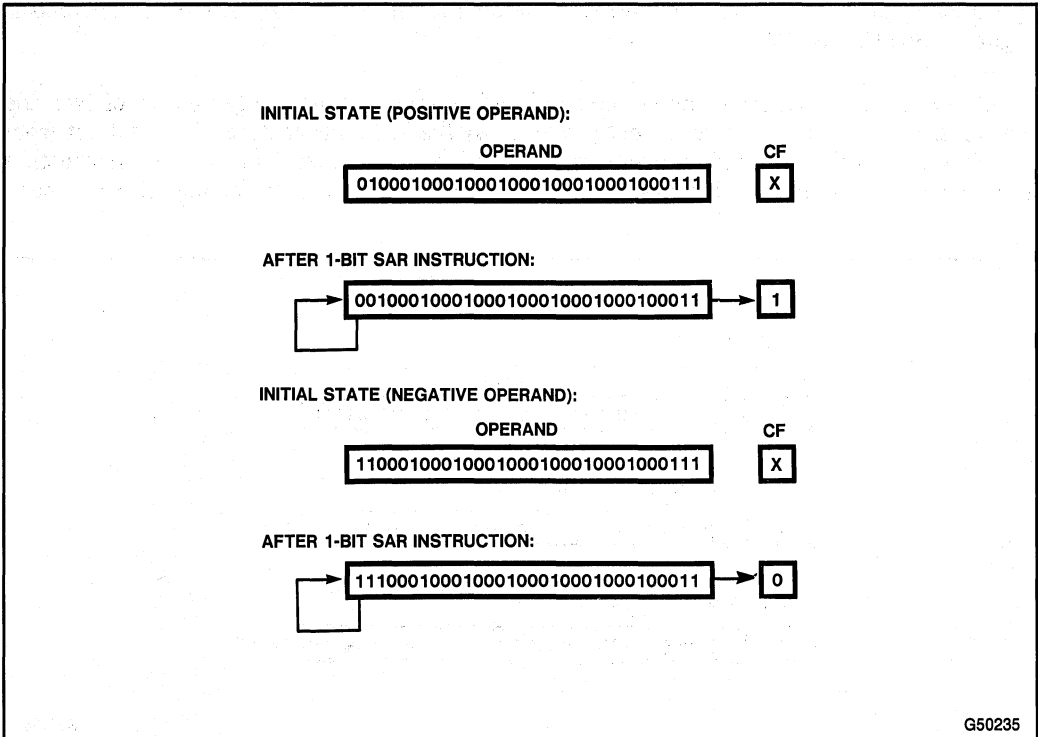

Figure 3-8. SAR Instruction
**SAR (Shift Arithmetic Right)** shifts the destination byte, word, or doubleword operand to the right by one bit position or by the number of bits specified in the count operand (an immediate value or a value contained in the CL register). The sign of the operand is preserved by filling empty bit positions with zeros if the operand is positive or ones if the operand is negative. See Figure 3-8.